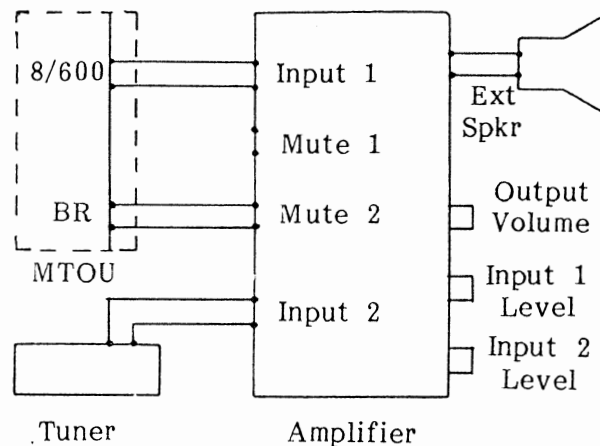

FIGURE 30
11.77 To provide external BGM control, obtain and install the optional BR (K1) relay on the MTOU PCB, see Paragraph **05.01**. Connect the BR terminals on the MTOU to the control terminals (mute, mike switch, etc.) on the amplifier (see Figure 30).